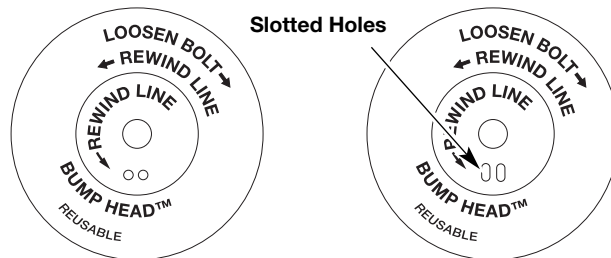

Fig. 33
**NOTE:** SplitLine™ can only be used with the inner reel with the slotted holes. Single line can be used on either type of inner reel. Use Figure 33 to identify the inner reel you have.